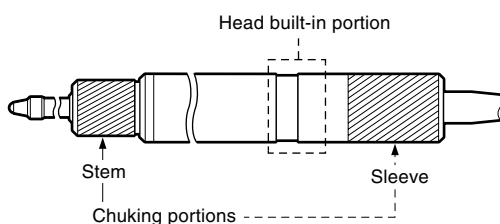

Fig. 1 Mounting positions
- Be sure to chuck the probe stem for mounting. If other probe portion needs to be chucked, avoid chucking the name label portion (where the head is built in) and its neighborhood (Fig. 1). If the probe is mounted on another device, ensure that the probe is free from contact with mount screws.